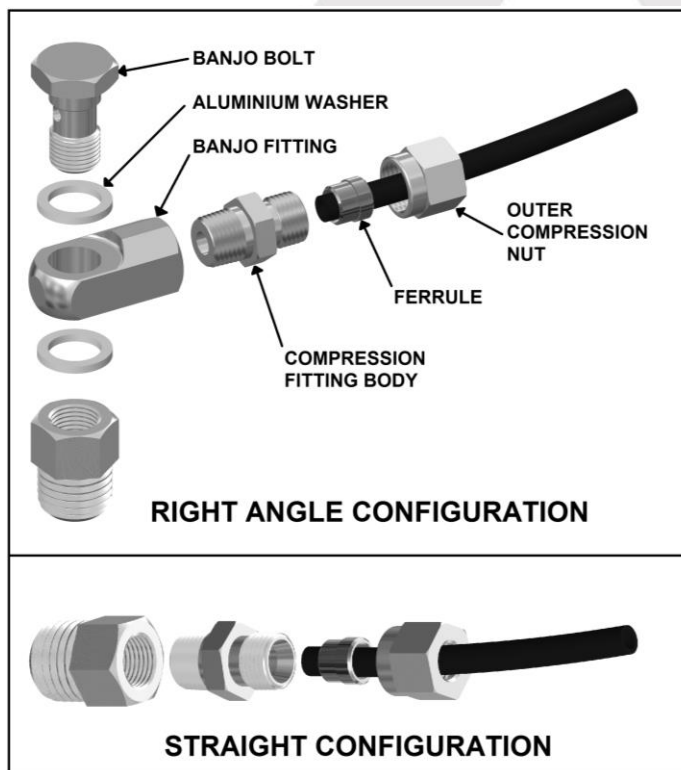

Figure 16.
- Assemble an aluminium washer onto the banjo bolt and insert through the banjo fitting. Assemble second aluminium washer and tighten into bulkhead fitting using a 14mm [9/16"] spanner. (Fig.16.)
- Insert the outer compression nut and ferrule over the air line. Ferrule should be orientated as per Fig.16.
**NOTE :** When right angle routing of the tube is not required, screw the compression fitting body straight into the bulkhead fitting body (Fig.16.).